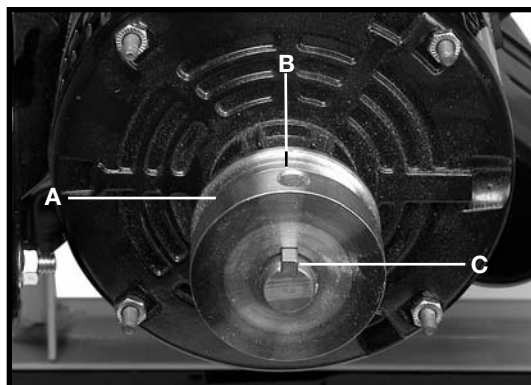

Fig. 7
Attach the motor pulley (A) Fig. 7 to the motor shaft, making sure that the set screw (B) in the motor pulley engages with the key (C) in the motor shaft. **NOTE:** The key (D) Fig. 5 is shipped taped to the motor. Remove it, place it on the motor shaft, and attach the pulley over it.
2. Place a straight edge against the belt along the V-groove of both pulleys. Visually check to see that both pulleys are in line. Either pulley can be moved in or out by loosening the set screw (the lower pulley set screw is shown at (B) Fig. 7). After aligning, tighten the set screw. The motor can also be moved on the mounting bars.